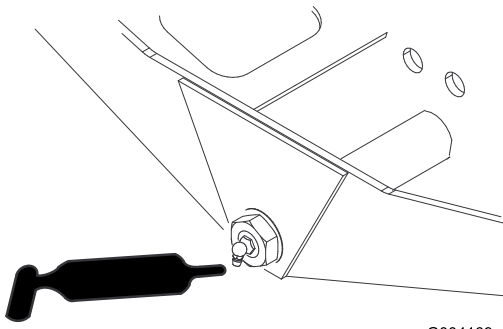

Figure 81
- Axle-steering pivot (1) (Figure 81)